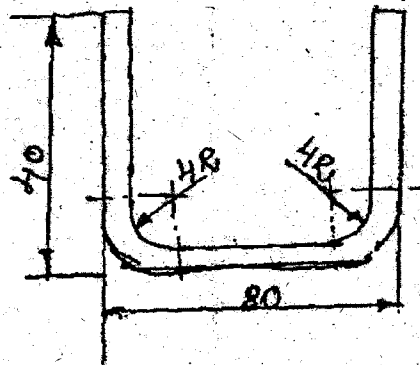

Fig. 4
- (b) Design and sketch the views of a compound die that produces steel washers. Dimensions of the washer may be assumed suitably. (16)
14. (a) (i) Calculate the blank length to make the part shown in Fig 4. Also determine the bending force required if the ultimate tensile strength of material is 3500 kg/cm^2 . The die radius is 8mm and the bend length is 120cm . (12)
- (ii) Discuss the salient features of forming dies. (4)